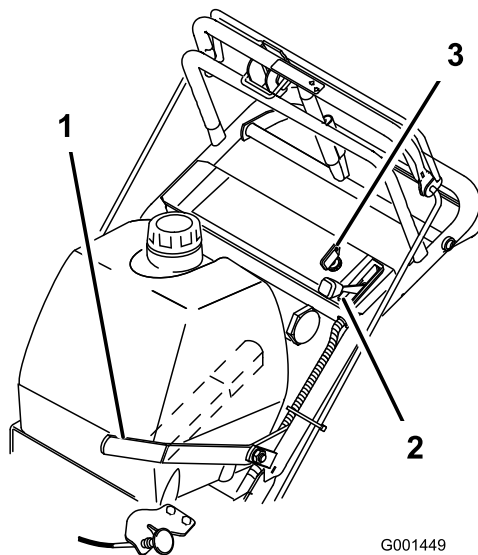

Figure 7
5. Turn the ignition key to the **run** position (Figure 7).
- Pull the choke knob if the engine is cold (Figure 7).
- Move the throttle lever to the **slow** position (Figure 7).
- Turn the ignition key to **off** (Figure 7).